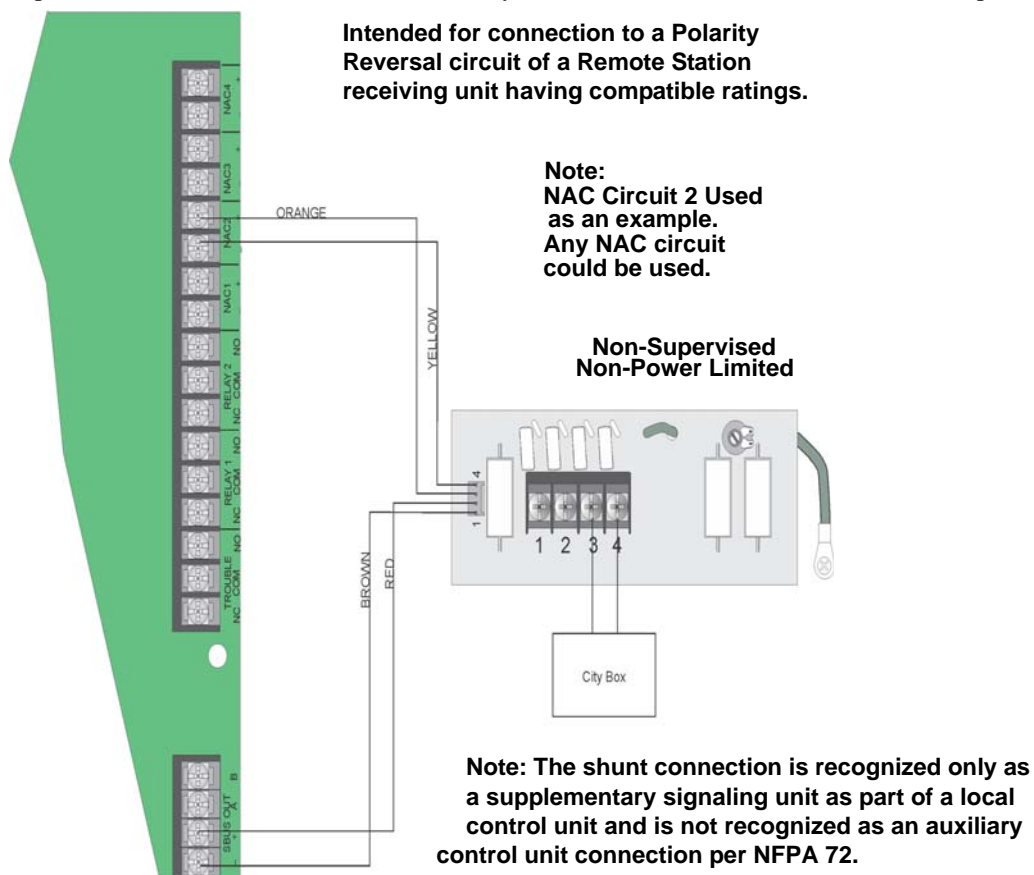

Figure 4-44 City Box Connection
2. Wire the 5220 to the control panel as shown in Figure 4-44. This drawing also shows how to connect the city box coil to terminals 3 and 4 on the 5220. Do not install an EOL resistor in the terminals of the NAC circuit used for this application.